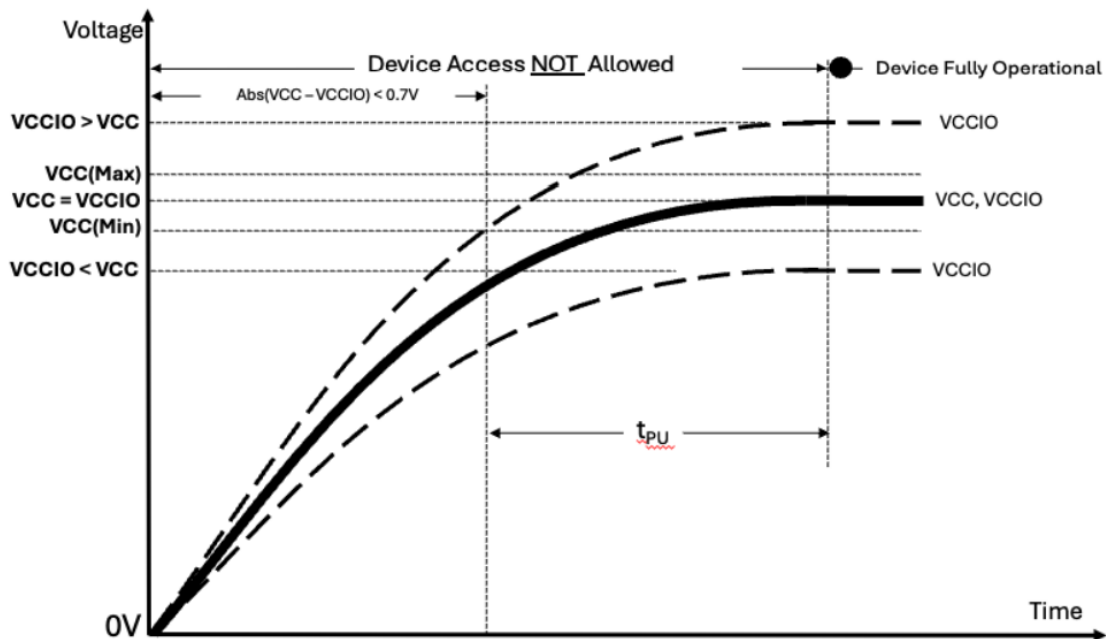

Figure 5: Power-Up Behavior
- The device must not be selected at power-up (a 10KΩ pull-up Resistor to VCCIO on E# is recommended). Then a further delay of t_{PU} (Figure 5) until VCC reaches VCC(minimum) .